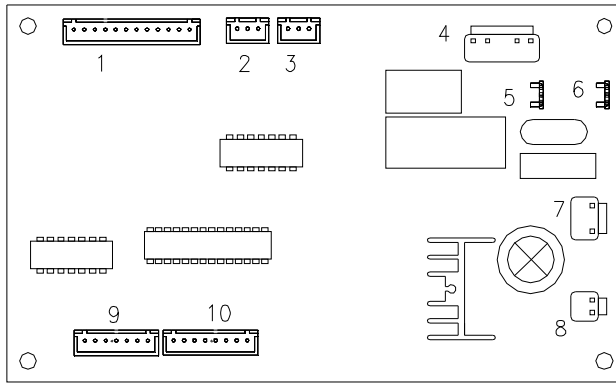

Fig.19
6.2.1.2 Power PCB connections for version B (Fig.19)